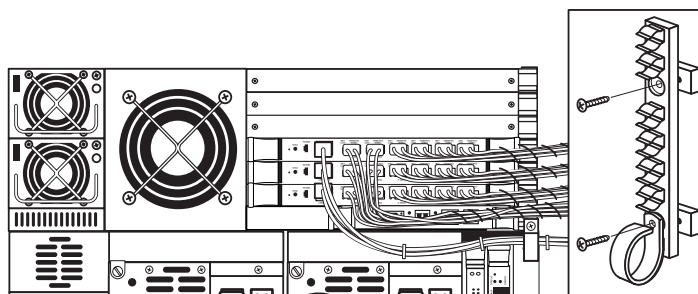

Figure 50: Installing the FC cable restraint bracket
- b. Position the cable restraint bracket provided with the e2400-FC 2G interface controller on the card cage where the previous cable restraint bracket was located (see Figure 50).